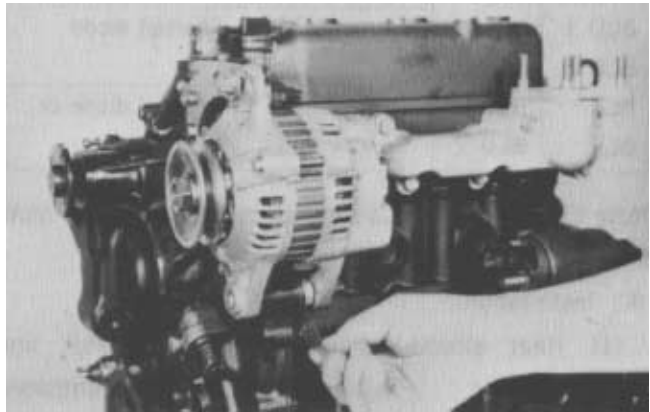

Figure 41
6. Reverse steps 1 - 5 to install the alternator. Make sure the spacer and shim is installed on the alternator support bolt between the alternator lower rear bracket and gear case bracket (Fig. 41).